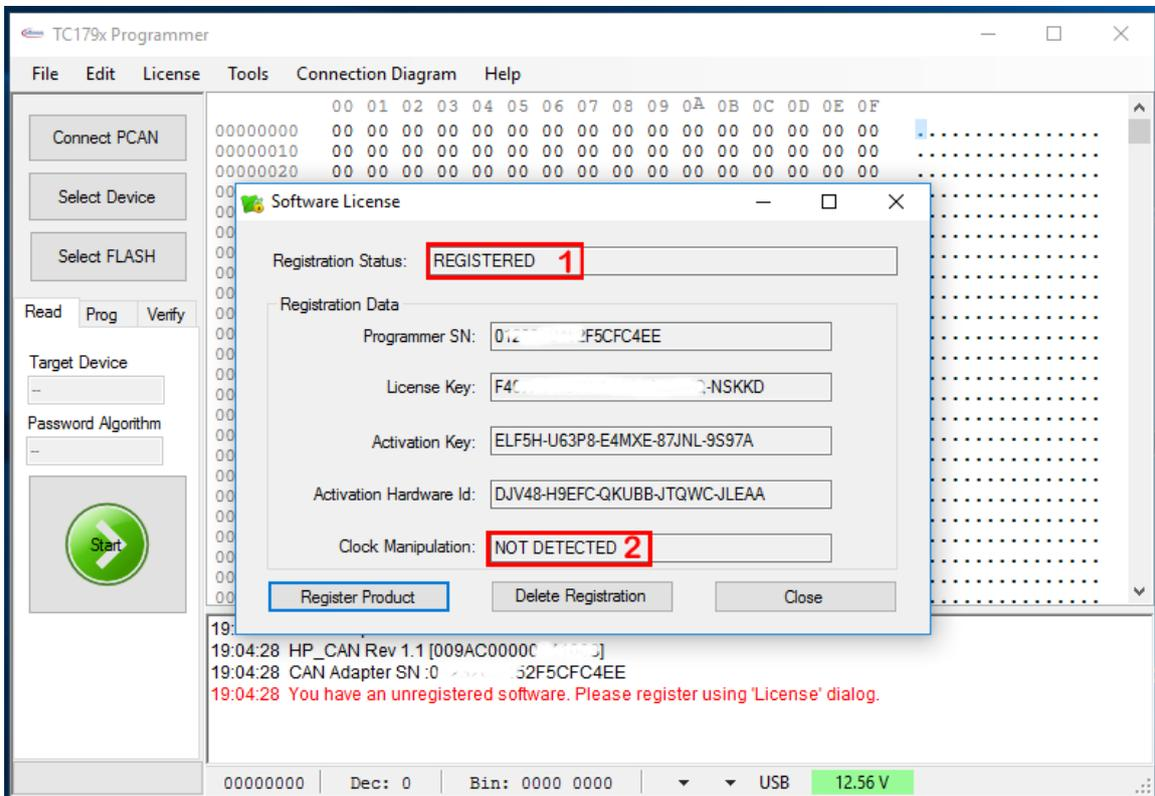

Figure 22 Successful TC179x-Programmer software activation
- After Activation process completed, the "Registration Status" must be "REGISTERED" and "Clock Manipulation" is "NOT DETECTED" (Figure 22).